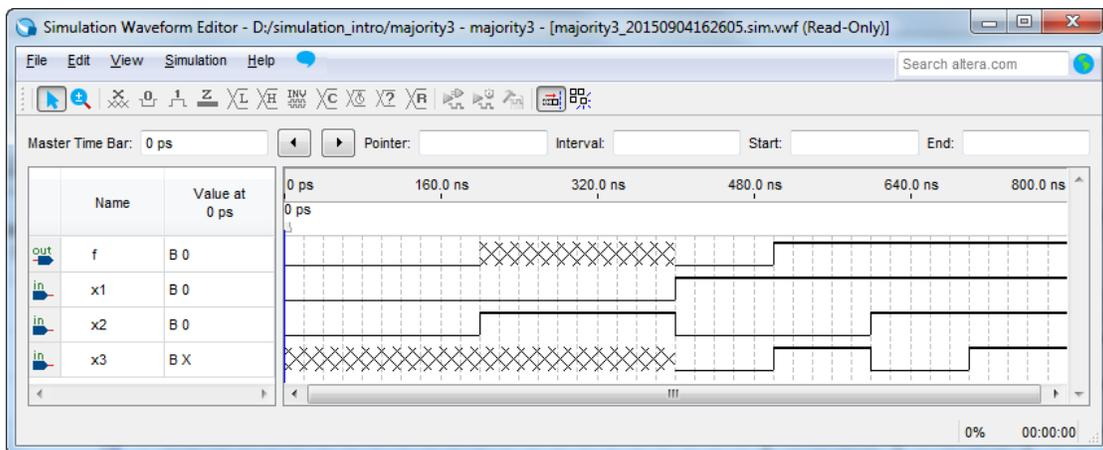

Figure 3. Setting the value of an input to Unknown (X).
This tool allows the selected part of a waveform to be set to the value Unknown (X). An example is given in Figure 3, using the majority3 function circuit that was described in section 2. The value of the signal  $x_3$  has been set to unknown for the first half of the simulation. Running the simulation with these input values results in the output waveform  $f$  that is shown in the figure. Note that the value of  $f$  is unknown between 200 to 400 ns.